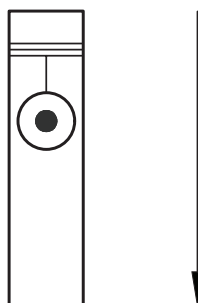

Figure D-7—Vertical force acting on a spar.
It is critical to consider the effects of lateral force and the resultant “moment” when using spars. Most spars can withstand incredible compression forces, as long as the forces are directed straight down the length of the spar (figure D-7). To illustrate this, try compressing a 2 by 4 down its long axis. When a spar is subject to a lateral force, the load-capacity question becomes more complex. A lateral force (F) applied some height (r) above the ground induces a bending moment (which we can loosely describe as torque) at the base of the spar (figure D-8). Note that you determine a bending moment using the equation $r \times F = M$. As is evident in the equation, the higher the lateral load on the spar, the higher the magnitude of the bending moment. It is crucial to understand that the magnitude of a moment increases significantly as the value r increases, just as the efficacy of a pry bar increases significantly with its length. The higher the attachment of the lateral load on the spar, the greater the tilting force. The force exerted at the base is proportional to the lateral force times its attachment height on the spar. The exact effect depends upon the spar’s diameter and how it is anchored at its base.